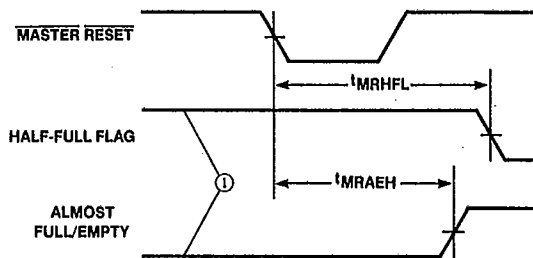

Figure 9. t_{MRHFL} , t_{MRAEH} Specifications
The Half-Full (HF) will be high only when the net balance of words shifted into the FIFO exceeds the number of words shifted out by thirty-two or more (i.e., when the FIFO contains thirty-two or more words). The Almost-Full/Empty (AFE) flag will be HIGH when the FIFO contains fifty-six or more words or when the FIFO contains eight or fewer words (see Figures 9, 10, and 11).